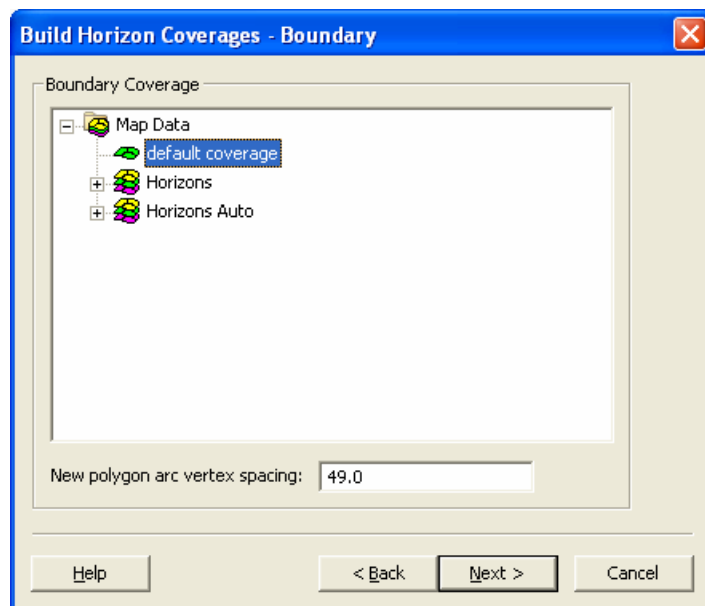

Figure 7.1. Select the starting coverage when building horizon coverages.
7. In the next step, select the default coverage as shown in Figure 7.1. Click *Next*.